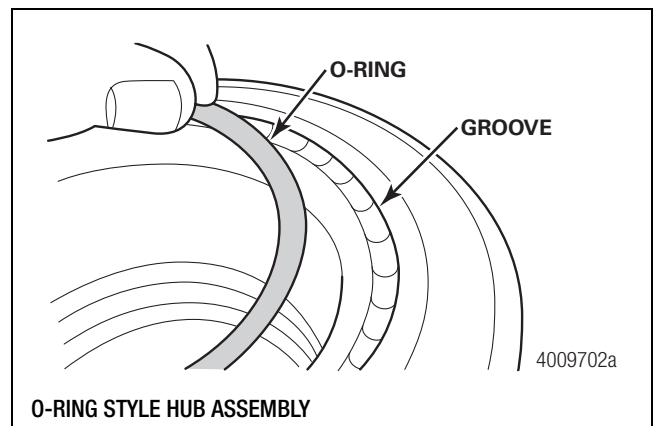

Figure 4.37
- If the bearing has a machined groove on the inside corner as shown in Figure 4.37: It is an O-ring style hub. An O-ring, part number 1205Q2747, is required.